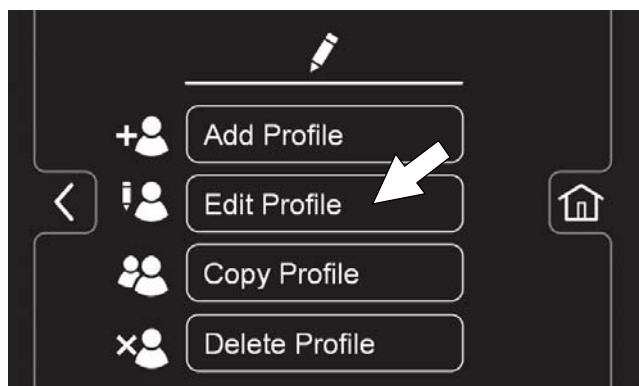

FIG. 191
3. Press the Edit Profile button (Figure 191).